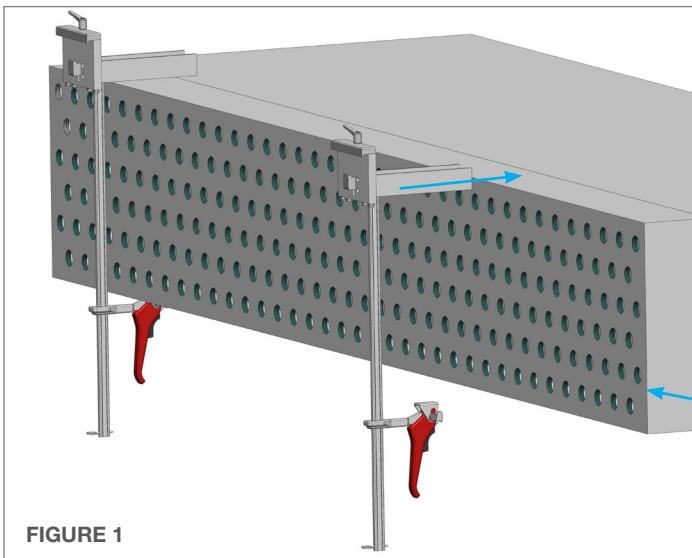

FIGURE 1
1. Mount the **Fin Fan Clamp Assemblies** to the tube bundle as shown. The Clamps should be as square to the bundle as possible. Ratchet the red Handle Assembly until tight. (**Figure 1**)
1. If the AUTOBOX® (ABX-2L) has a bottom plate without a center mounting hole, shown in **(Figure 1)**, it will need to be converted to the new plate. The new bottom plate is shown in **(Figure 1.1)**. If the AUTOBOX® (ABX-2L) has the mounting hole, it will need to be removed to install the Retrofit Kit.